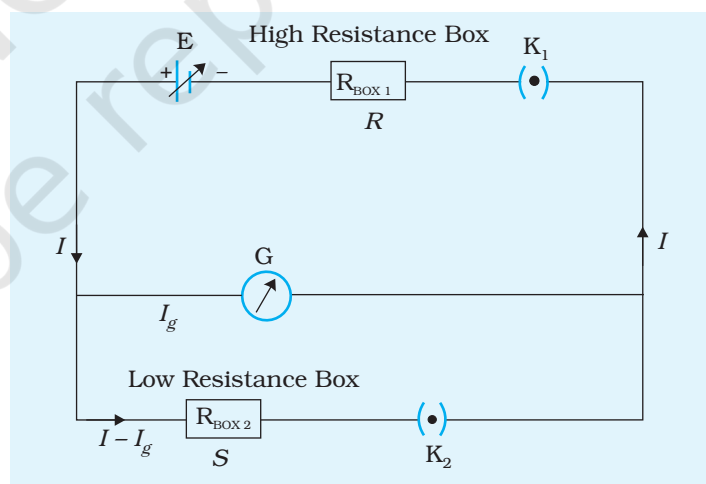

Fig. E 6.1 Circuit for finding resistance of galvanometer
The circuit arrangement required for finding the resistance G of the galvanometer by half deflection method is shown in Fig. E 6.1.
1. Clean the connecting wires with sand paper and make neat and tight connections as per the circuit diagram (Fig. E 6.1).